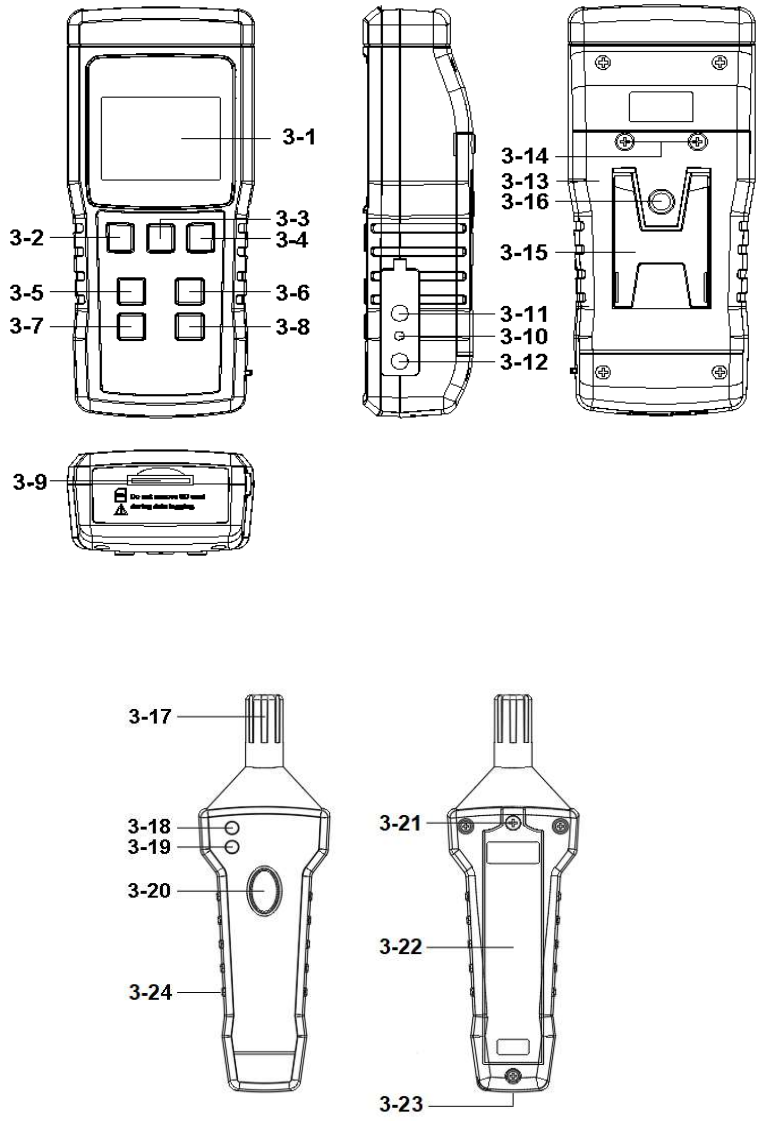

Fig. 1
- 1) Pressing the " Power Button "(3-2, Fig. 1)
- * Pressing the " Power Button " (3-2, Fig. 1)
- 2) Turn on the humidity Probe by pressing the " Power Button "(3-2, Fig.1) .
Pressing the " Function Button " (3-6, Fig. 1) continuously (not release the button), the Display will show the following text in sequence :
How to change the Temperature unit, select to the Humidity and Temperature measurement function only, then press the "Unit Button " (3-5 Fig.1) continuously, the unit will change from " °C " to " °F " sequence, until the desired unit is present on the Display release the " Unit Button ", the select unit will save into the memory with default.
During the measurement, press the " Hold Button " (3-3, Fig. 1) once will hold the measured value & the LCD will display a " HOLD " symbol.
- 1) The data record function records the maximum and minimum readings. Press the " REC Button " (3-4, Fig.1) once to start the Data Record function and there will be a " REC " symbol on the display.
- a) Press the " REC Button " (3-4, Fig. 1) once, the " REC MAX " symbol along with the maximum value will appear on the display.
- b) Press the " REC Button " (3-4, Fig. 1) again, the " REC MIN " symbol along with the minimum value will appear on the display.
can use the "Backlight Button " (3-2, Fig. 1) select from
Prepare a " SD memory card " (4 G to 16 G, optional), insert the SD card into the " SD card socket " (3-9, Fig. 1). The front panel of the SD card should face against the down case.
Press the " LoggerButton (3-8, Fig. 1) > 2 Sec. , the LCD will show the text " LOGGER ", and flashing , at the same time the measuring data along the time information will be saved into the memory circuit.
During execute the Datalogger function , if press the " Logger Button " (3-8, Fig. 1) once will pause the Datalogger function (stop to save the measuring data into the memory circuit temporally). In the same time the text of " LOGGER " will stop flashing.
If press the " Logger Button " (3-8, Fig. 1) once again will execute the Datalogger again, the text of " LOGGER " will flashing .
During pause the Datalogger, press the " Logger Button " (3-8, Fig. 1) continuously at least two seconds, the " Logger " indication will be disappeared and finish the Datalogger.
Press the " Logger Button (3-8, Fig. 1) >2 Sec. , the LCD will show the text " Logger ", then press the " Logger Button " (3-8, Fig. 1) once, the " LOGGER " will flashing once and Beeper will sound once, at the same time the measuring data along the time information will be saved into the memory circuit. The lower Display will show the Position (Location) no. and saved into the SD card too.
It can use the " ▲ Button " (3-5, Fig. 1) or "
▼ Button " (3-6, Fig. 1) to set the measuring position (1 to 99, for example room 1 to room 99) to identify the measurement location , the lower Display will show P x (x = 1 to 99).
Press the " Logger Button " (3-8, Fig. 1) continuously at least two seconds, the " Logger " indication will be disappeared and finish the Datalogger.
During the normal measurement (not execute the Datalogger), short press " Time Button " (3-7, Fig. 1) once , the TFT LCD display will present the time information of Year, Month/Date, Hour/Minute & Sampling time & connected probe number information .